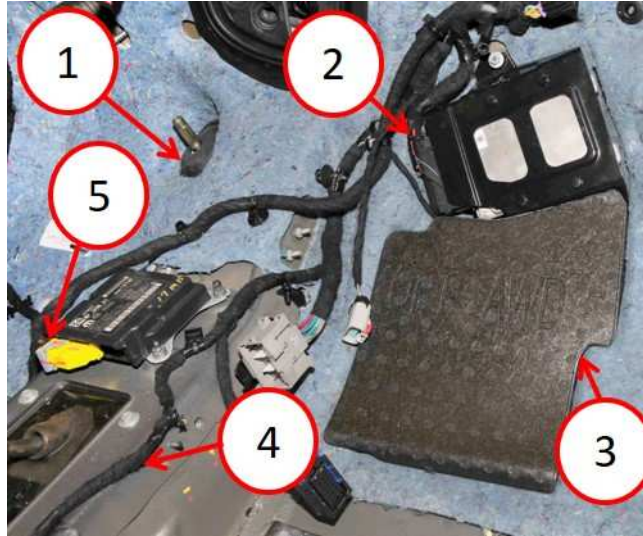

Fig. 5
3. Disconnect the Transmission Control Module (TCM) wiring harness from the module (Fig. 5) .
5. Disconnect the Drivetrain Control Module (DTCM) wiring harness from the module (If equipped) (Fig. 5) . If not equipped, proceed to Step 7 of the Repair Procedure.
7. Disconnect the headlamp/dash wiring harness (Fig. 5) with fasteners from the vehicle.
9. Disconnect the interior wiring harness (Fig. 5) with fasteners from the vehicle.
10. Disconnect the Occupant Restraint Controller (ORC) wiring harness (Fig. 5) from the module.
12. Remove the steering gear pinion shaft boot (Fig. 5) from the vehicle.